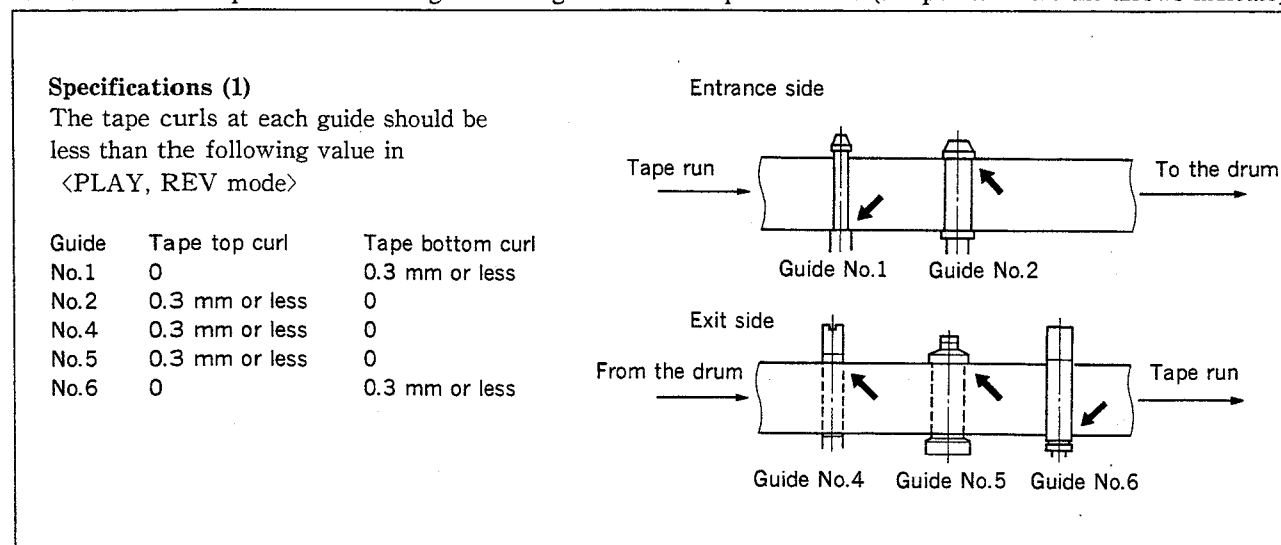

**Fig. 6-6-1 Checking playback build-up**
2 (1) If RF wave shape does not make flat instantaneously while maintaining horizontally flat envelope, go to the adjustment below. (Fig.6-6-1.)
If noise is seen at exit side (bottom of screen) when the unit put into the playback mode from threading completed condition. (Fig.6-6-1 (1))
(2) Check that FWD hold-back tension is not too low.
Rotate the pinch roller azimuth adjusting screw about 5 degrees in clockwise. Check the RF wave shape. Adjust it by incrementing the 5 degree clockwise rotation and check at each rotation. (Fig.6-6-1 (2))
If noise is seen at exit side (bottom of screen) when the unit put into the playback from REV mode. (Fig.6-6-1 (1))
(3) Loosen by rotating the height locking screw in counterclockwise direction, using Guide No.6 locking driver. (Fig.6-6-1 (3))
(4) Adjust height of Guide No.6 by rotating it.
**Note:** If Guide No.6 is raised too high, tape wrinkle occurs between capstan and Guide No.5. (Fig.6-6-1 (2) portion-A) Check there is not tape wrinkle.
If noise is seen at exit side (bottom of screen) when the unit put into the playback from FF mode. (Fig.6-6-1 (1))
(5) Check that FWD hold-back tension is not too low.
Rotate the pinch roller azimuth adjusting screw about 5 degrees in clockwise. Check the RF wave shape. Adjust it by incrementing the 5 degree clockwise rotation and check at each rotation. (Fig.6-6-1(2))